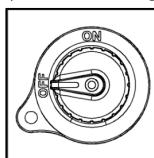

Fig 5.1A
- Grinder has a 2-state On/Off switch. (Fig 5.1A)